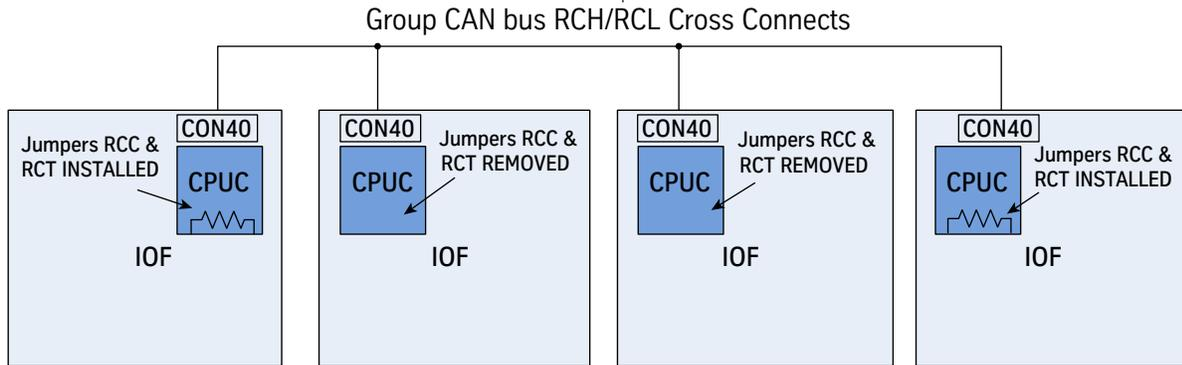

Figure 3 - Controller Group CAN Cross-Connects
1. Cross-connect RCH/RCL between all cars in group. See Figure 3 on page 4-10.